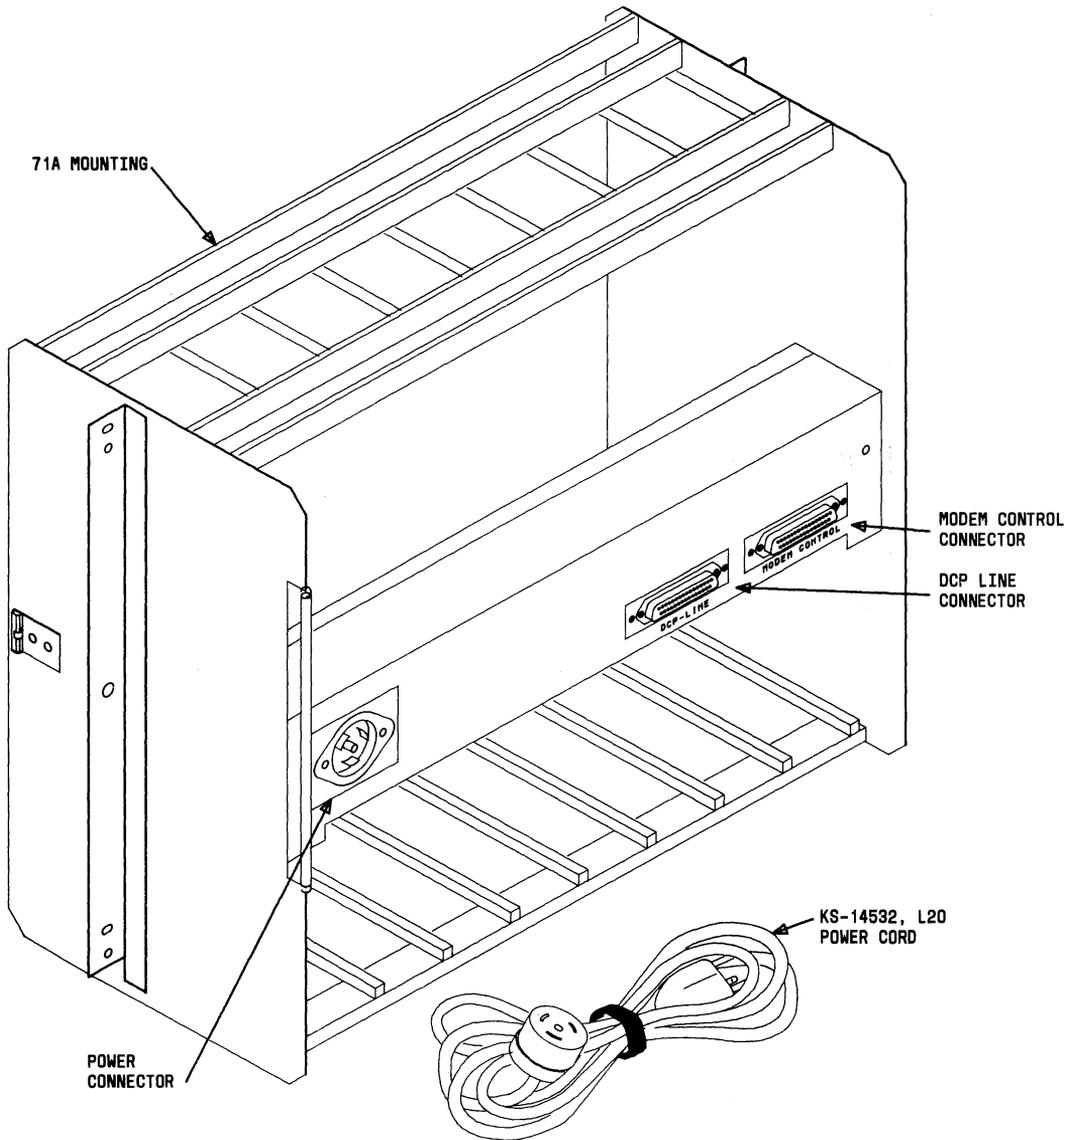

Fig. 8—Rear View of 71A Multiple Mounting
2.18 The rear of the 71A multiple mounting (Fig. 8) contains two connectors and a twist-lock power connector and are described below: